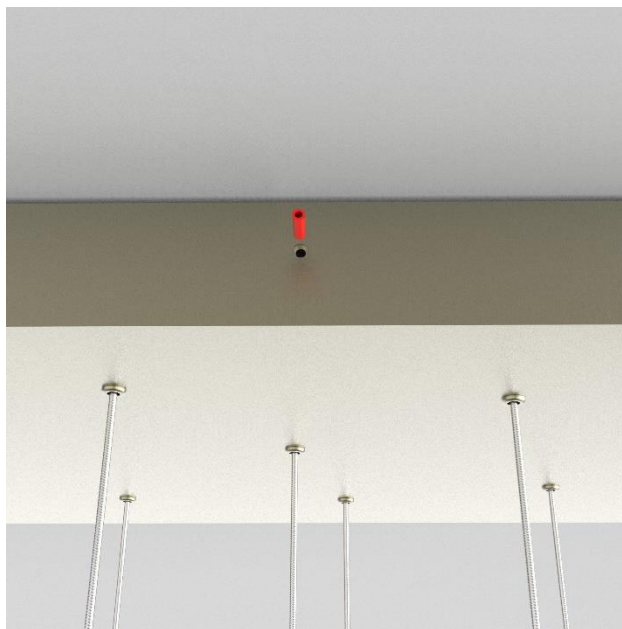

Figure 4
- Use the provided Allen wrench to secure the set screw in plate. (Figure 4)